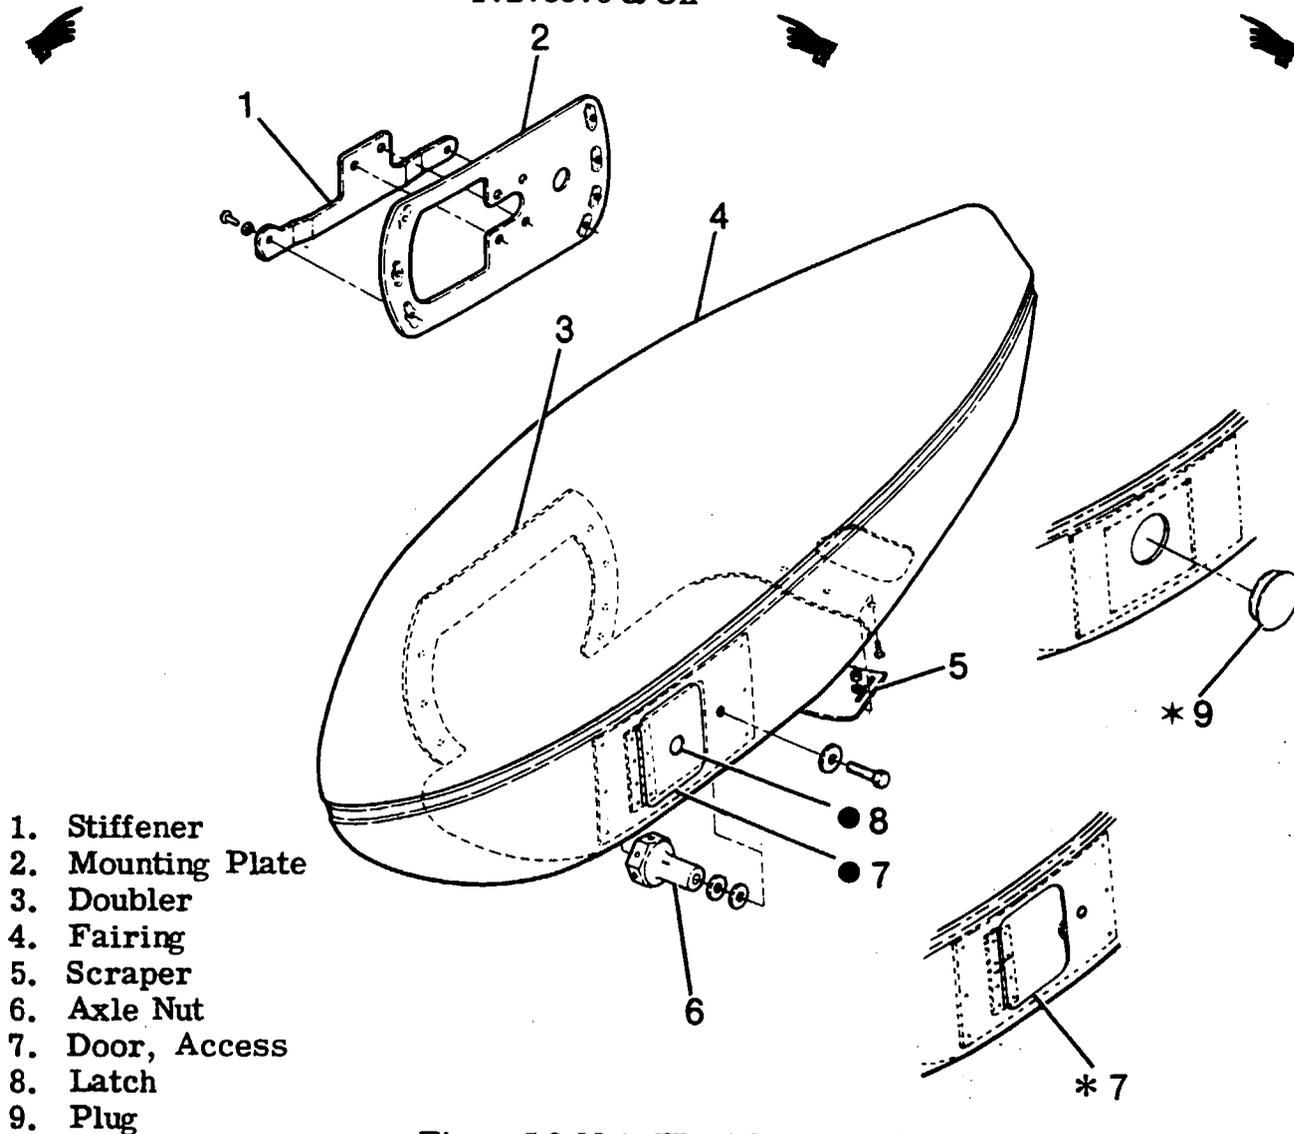

Figure 5-2. Main Wheel Speed Fairings
- 5-12. **MAIN WHEEL SPEED FAIRING REMOVAL.** (See figure 5-2.)
- b. Remove screws attaching stiffener (1) and inboard side of wheel speed fairing (4) to attach plate (2), which is bolted to the axle.
- 5-13. **MAIN WHEEL SPEED FAIRING INSTALLATION.** (See figure 5-2.)
- c. Install screws attaching stiffener (1) and inboard side of wheel speed fairing (4) to mounting plate (2), which is bolted to the axle.